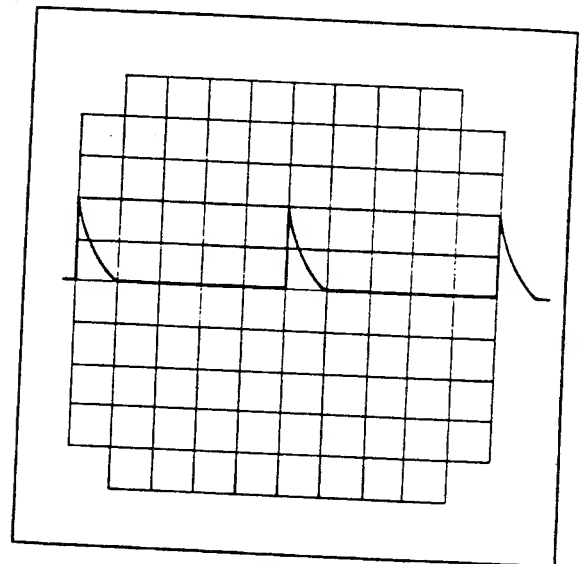

Fig. 17.
3. With the SWEEP TIME/DIV control, set to 0.1 ms, apply 1 ms marker signal to the CH1 to display 3 wave on the screen as shown in Fig. 17.